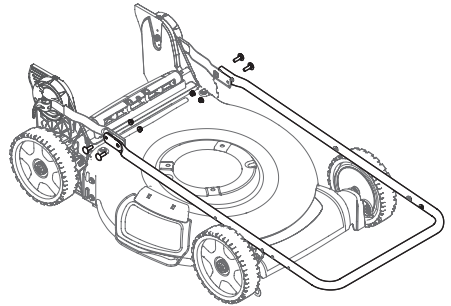

Figure 8
4. Using the four carriage bolts and nuts removed in STEP 1, secure the upper handle to the lower handle. Tighten hardware securely to secure the handle in place (Figure 8).